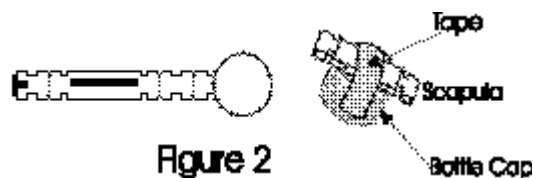

Figure 2
2. Assemble the **shoulder joint** as shown in Figure 2 using Styrofoam ball, bottle cap (socket), and tape. Note how the shoulder ball fits into the bottle cap. Tape the scapula to bottle cap top.